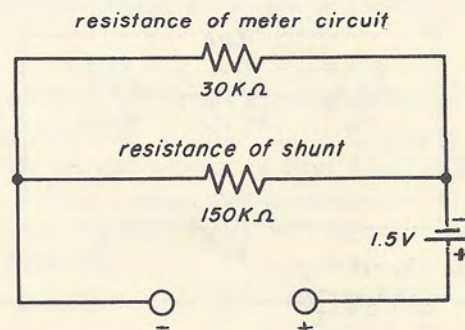

Fig. 11-26
Draw the equivalent circuit of your meter with a 150 k-ohm shunt across it. Your drawing should look like Fig. 11-26.
Step 14. Calculate the total resistance of the parallel resistances shown in Fig. 11-26. If your calculations are correct, your answer should be 25 k-ohms.